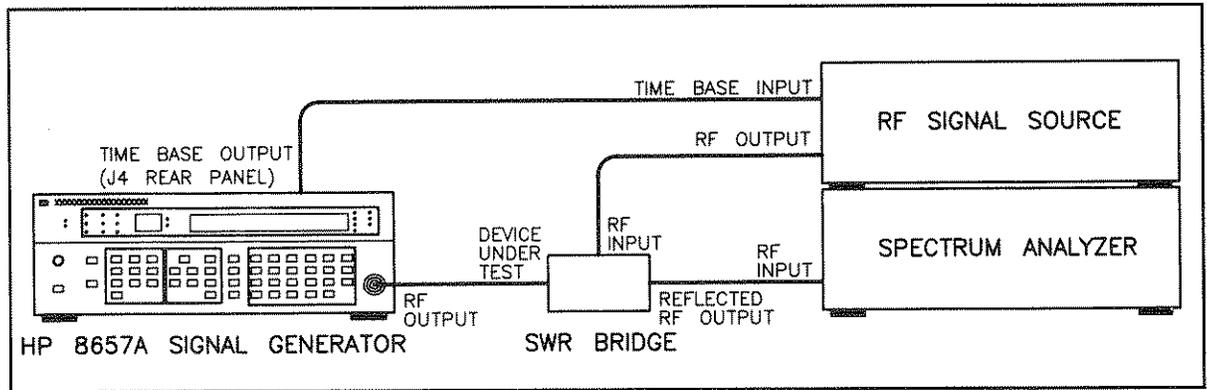

Figure 4-11. SWR Performance Test Setup (Out of Band)
4. Connect the equipment as shown in Figure 4-11.
11. Connect the equipment as shown in Figure 4-11.